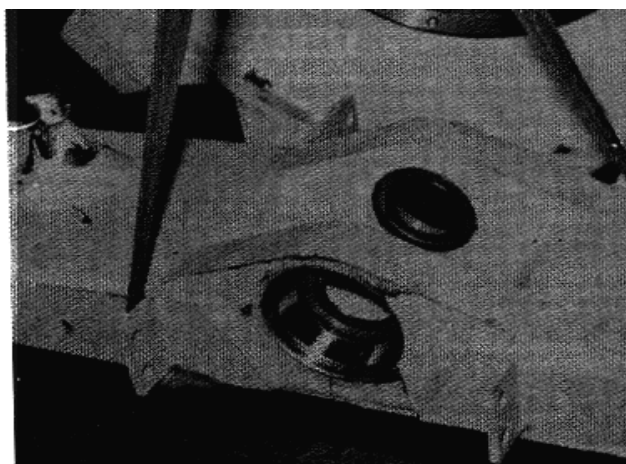

FIGURE 9-121.
f. Lift out the king pin. Remove the oscillation pin seals and bearing cups. Thoroughly clean the bores and inspect for damage (see figure 9-121).